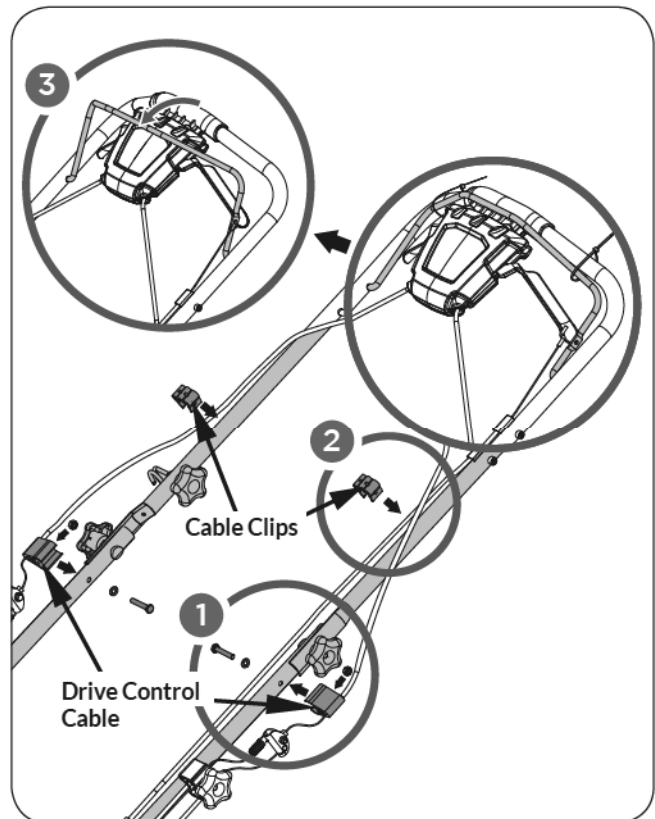

Figure 4
3. Remove the bolts and washers from the drive control cables. Fix the drive control cables onto the lower handlebars by using the removed bolts and washers. (See **Figure 4, illustration 1**)
4. Remove the cable clips in the lower connecting handlebars and upper handle, and reattach the clips to secure the cables to the handlebars. (See **Figure 4, illustration 2**)
5. Cut the cable tie to release the engine start/stop control lever. (See **Figure 4, illustration 3**)